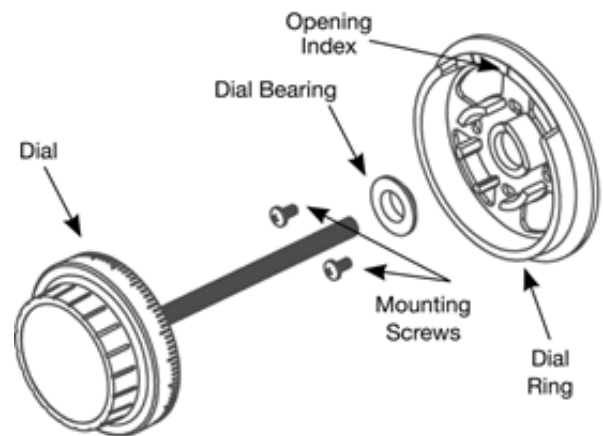

Figure 9
6. Mount the dial ring centered on the through hole, and attach to the safe door using the two mounting screws supplied with the dial assembly. The opening index reference mark must be in the twelve o'clock position (Figure 9).